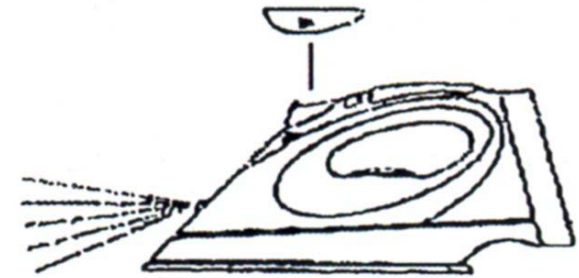

Fig. 10
- Press the spray button (3) slowly to get a jet spray. (Fig. 10)